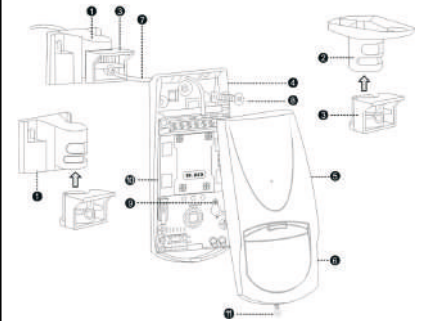

Fig.2 Detector Installation
1. Remove the front cover by unscrewing the holding screw (Fig. 2-11) and gently raise the front cover. (Fig. 2 -5)
2. Remove the PC board by unscrewing the holding screw located on the board.(Fig. 2 -9)